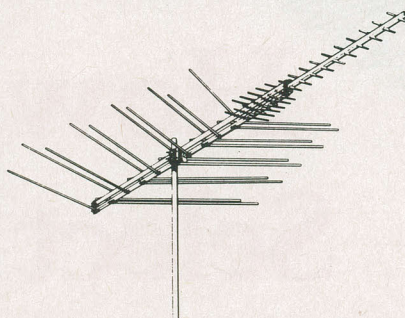
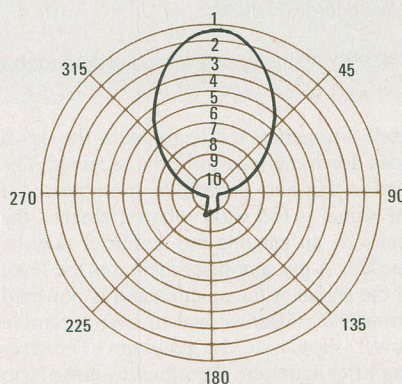

FIG. 6—THIS HIGHLY DIRECTIONAL ANTENNA is designed for both VHF and UHF reception.
FIG. 13—GRAPH OF THE BEAM WIDTH of an antenna. This graph is of an antenna with a beam width specification of 53°.
Figure 6 shows a combination VHF-UHF antenna. The front of the antenna has 10 parasitic UHF directors. The next section of short elements has 11 UHF driven elements. The back section has 10 driven VHF elements. There are no VHF parasitic directors or reflectors. However, the longer VHF elements act as reflectors for the elements in front of them. The forward sweep angle of the VHF elements contributes to its directional characteristics. This antenna works well in medium-signal areas with strong interference since the antenna is extremely directional.
4. The antenna's beam width is the maximum angle at which a signal can hit the antenna and still be at least half as strong, or no more than 3 dB down. Figure 13 is a graph of an antenna with a 53° beam width. The beam of the antenna shown in Fig. 6 averages 67° on channels 2-6, 29° on channels 7-13, and 31° on UHF channels 14-83. See Table 3 for beam width specifications on several antennas.